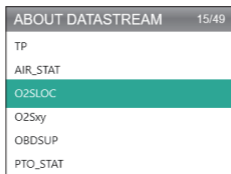

Figure 9.1.3
3. Select ABOUT DATASTREAM (See Figure 9.1.3), and press [OK] to view the definition of each datastream item.